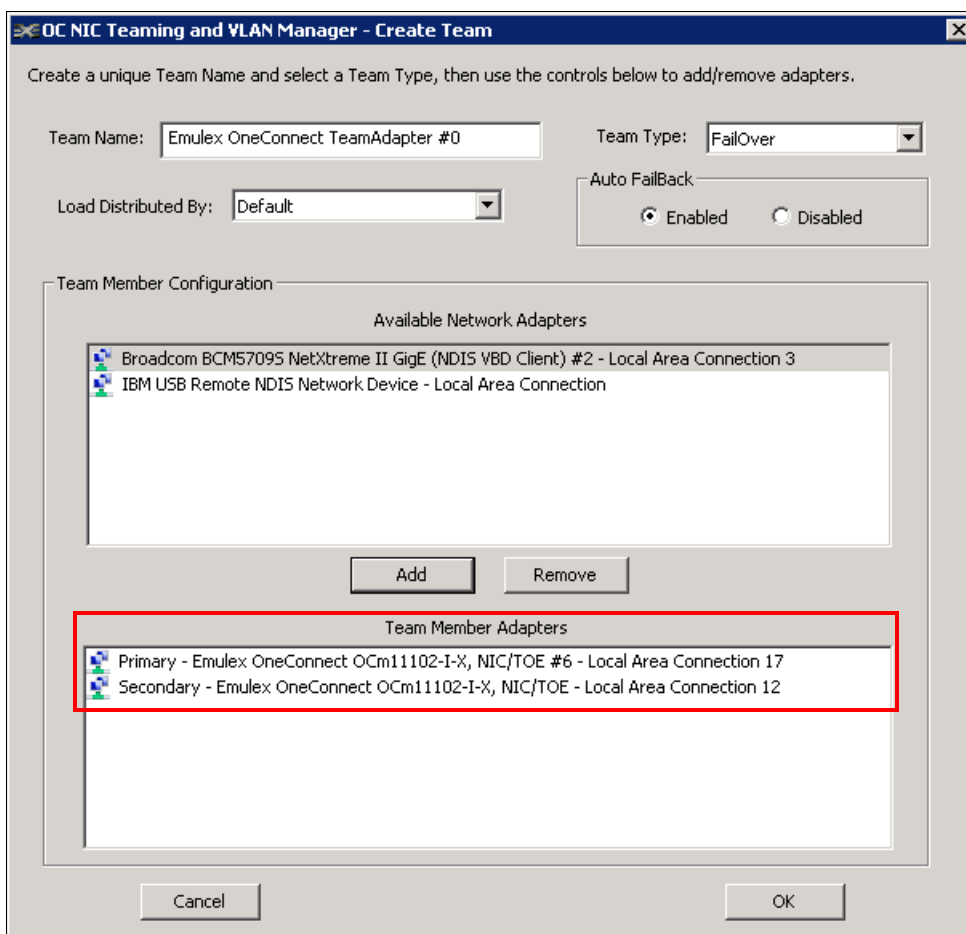

Figure 7-34 Added team members
- d. Select the second adapter for your team, and then click **Add**. Now the Team Member Adapters box shows both adapters (Figure 7-34). Click **OK**.